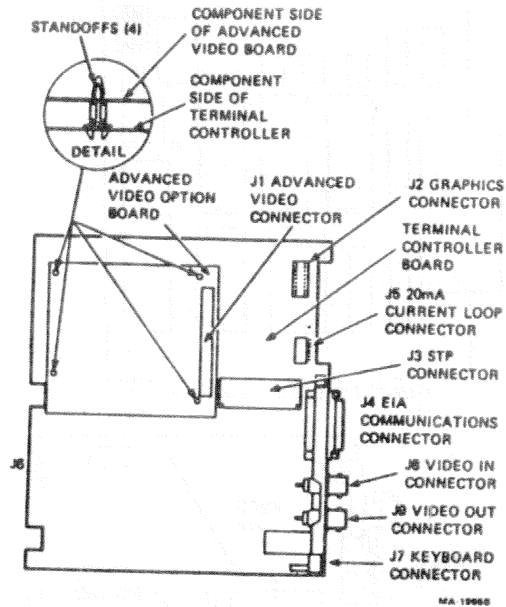

Figure 5-3 Terminal Controller with Advanced Video Board
3. Grasp the advanced video board by its edges and gently but firmly lift the board straight up and off the terminal controller board (Figure 5-3).